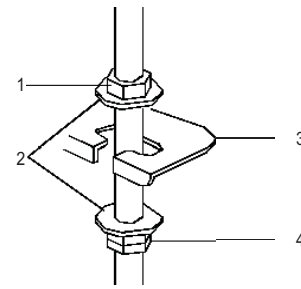

Fig. 11 – Secure the Hanger Bracket
- b. Secure the hanger bracket (see Fig. 11).